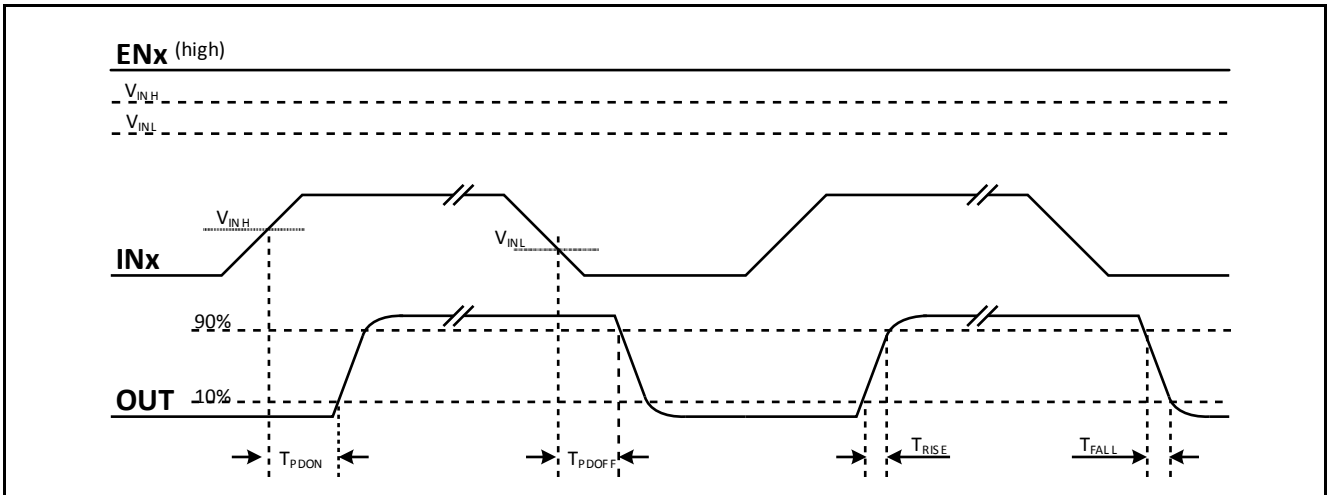
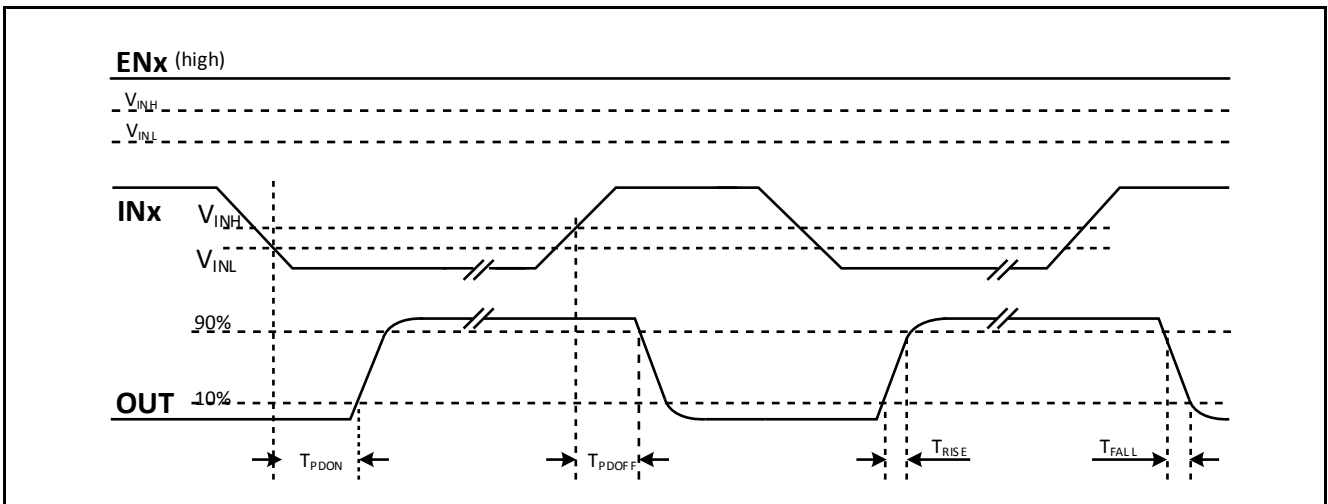
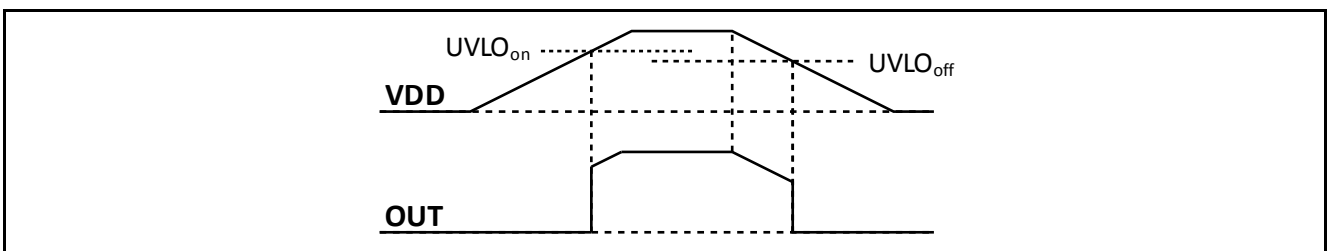
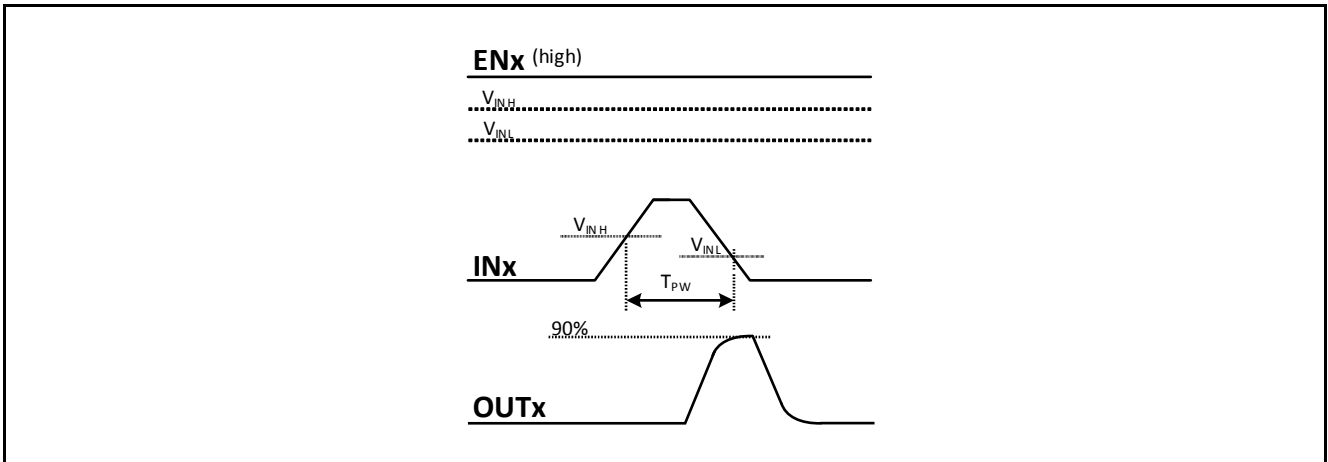

Figure 6-1 Propagation delay, rise and fall time, non-inverted
Figure 6-2 Propagation delay, rise and fall Time, inverted
Figure 6-3 UVLO behaviour, input ENx and INx drives OUTx normally high
Figure 6-4 TPW, minimum input pulse width that changes output state
**Table 5-8 Static Output Characteristics (see Figure 6-2)**
**Table 5-9 Dynamic Characteristics (see Figure 6-1, Figure 6-2, Figure 6-3 and Figure 6-4)**
Figure 6-1 shows the definition of rise, fall and delay times for the inputs of the non-inverting version (with Enable pin high or open).
Figure 6-2 shows the definition of rise, fall and delay times for the inputs of the inverting version (with enable pins high or open).
Figure 6-3 illustrates the undervoltage lockout function.
Figure 6-4 illustrates the minimum input pulse width that changes output state.